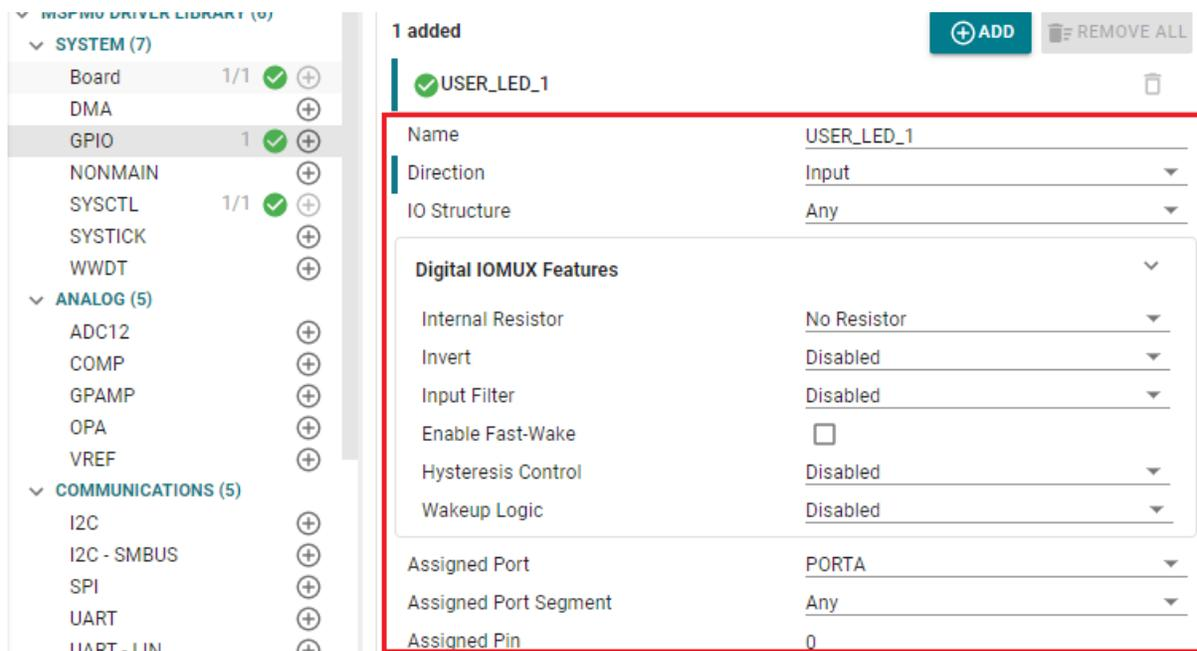

Figure 2-4. GPIO Configuration in SysConfig
- SysConfig supports more comprehensive configuration capabilities. Different from STM8CubeMX, which can only config pinout or simple configuration for peripheral, SysConfig provides more specific and detailed initialization configurations. As shown in Figure 2-4, SysConfig can configure the type of GPIO as well as features such as internal pull-up/pull-down resistors.